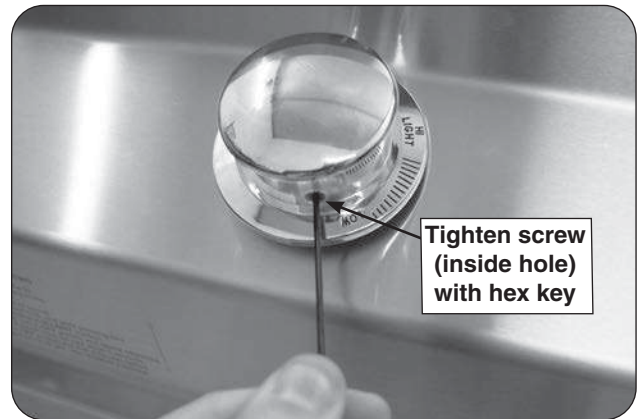

Fig. 22-2 Tighten screw to lock knobs
3. Insert the included .078" (2mm) hex key through the small hole located on the side of the knob and fully tighten the screw (see Fig. 22-2).